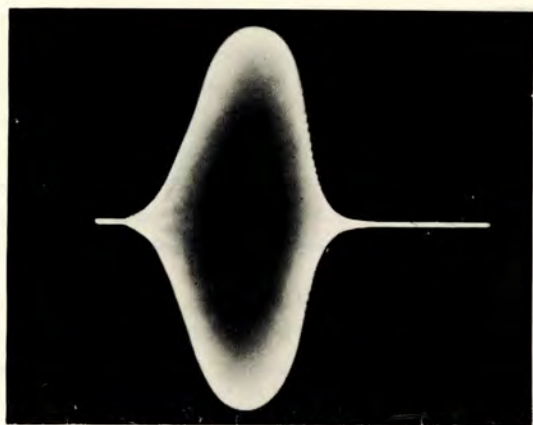

Figure 7-21. PA Output Pulse
e. TOO SHORT A SQUARE WAVE FROM SECOND IPA. — This particular defect results in a shortened PA output pulse as illustrated in figure 7-21. When compared with the normal pulse of figure 7-8, the abnormal PA output pulse will be seen to have shortened considerably. Its trailing edge also tends to drop much more abruptly than with the normal pulse.